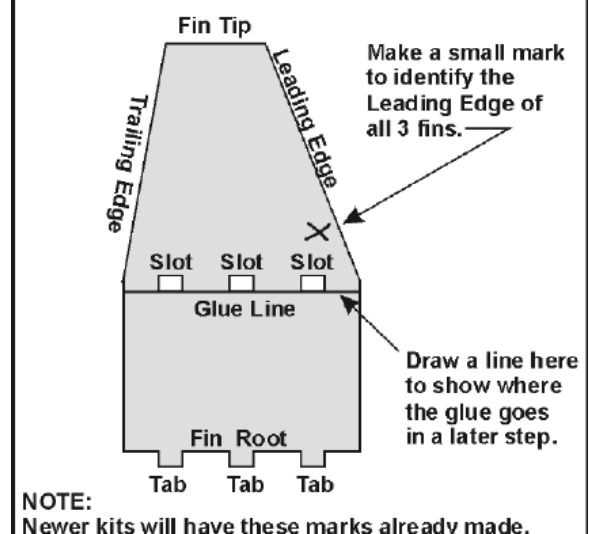

Figure 8
8. **Figure 8** shows you many important details about the 3 fins that are provided with your model rocket kit. These fins were cut with a computer controlled laser beam for an exact fit! Carefully remove the 3 fins from the sheet of balsa wood and place a small mark at the leading edge of each fin. (**Thing-a-ma-FACT:** Fins are used to control the model's flight by keeping it pointed straight during flight.)